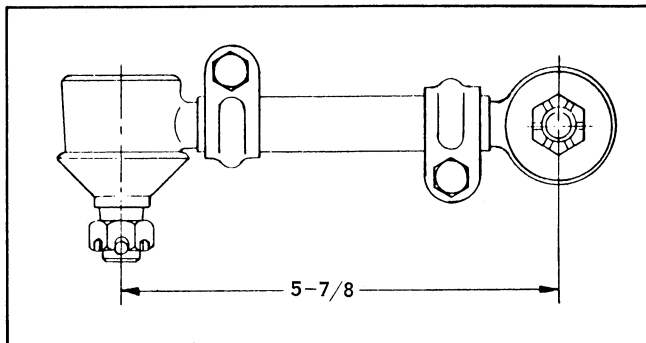

Figure 2-41. Tie Rod Adjustment - 3 Wheel Models
Tie rod (10) has a thread on both ball ends which is adjustable in a threaded sleeve. Both ends should be adjusted in the sleeve an equal number of threads to a length of 5-7/8 inches to centers of ball studs as shown in Figure 2-41.